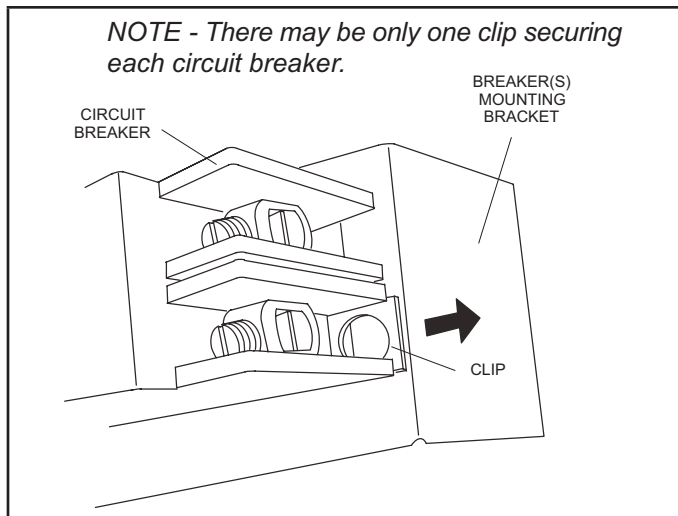

FIGURE 3. Circuit Breaker Clip
- 1 - Locate the one clip located on the right side (see arrow) of each breaker (see figure 3). The clip secures the circuit breaker to the mounting bracket. Pull the clip to release the breaker from the mounting bracket and rotate the breaker to the proper position.